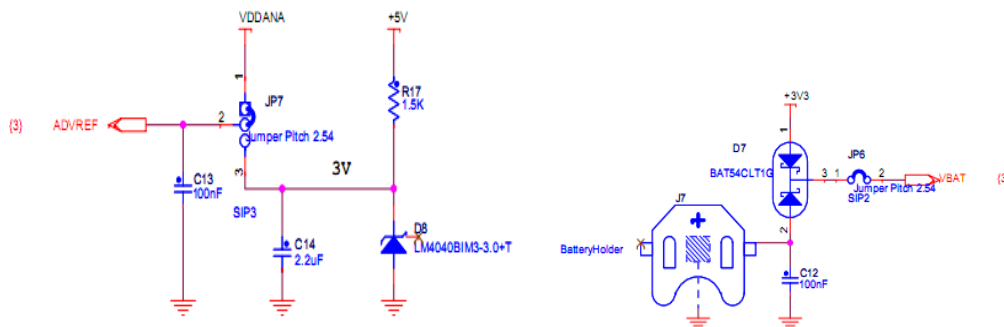

Figure 2-2
(1) Device power supply is shown in figure 2-2